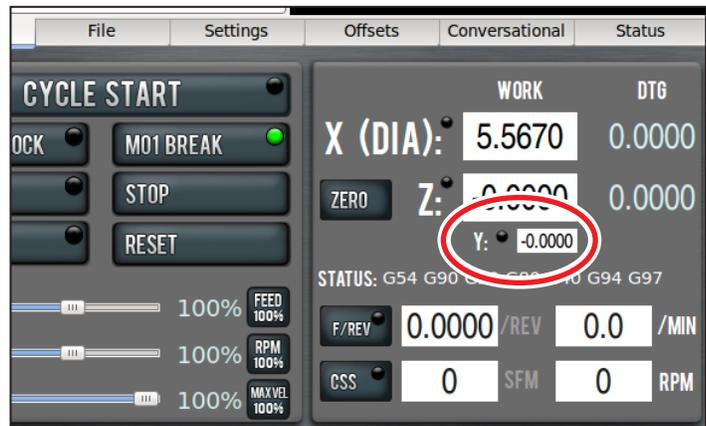

Figure 4.6
3. Enter 0 in Y digital read out (DRO) to zero Y-axis (see **Figure 4.6**). Press *Enter* after typing in the DRO to apply the value.